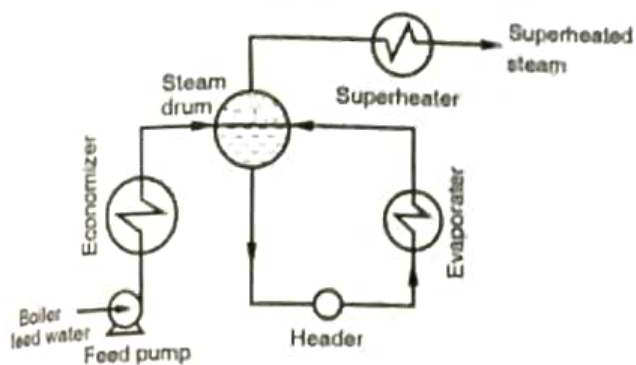

Fig. 6.1 Natural Circulation
- (1) **Natural Circulation Boilers (Fig. 6.1)** : The water convection currents (in the direction of the arrow shown) are set up due to the temperature difference. The water from steam drum falls under gravity to header where its temperature rises and density reduces. So it travels upward to steam drum through evaporator.